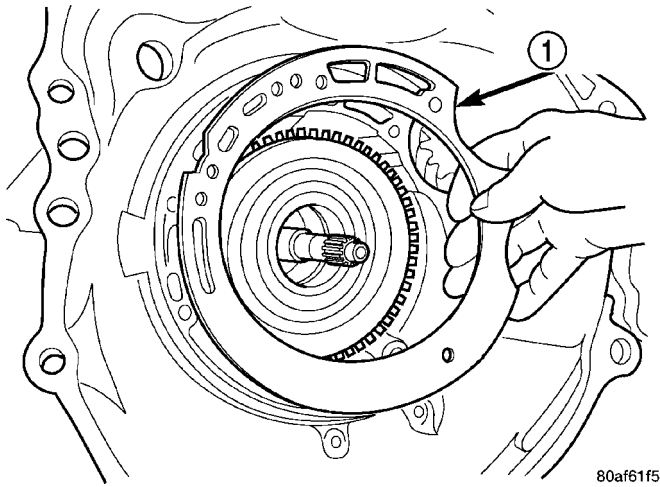

Fig. 146 Install Oil Pump Gasket
(56) Install oil pump gasket (Fig. 146).